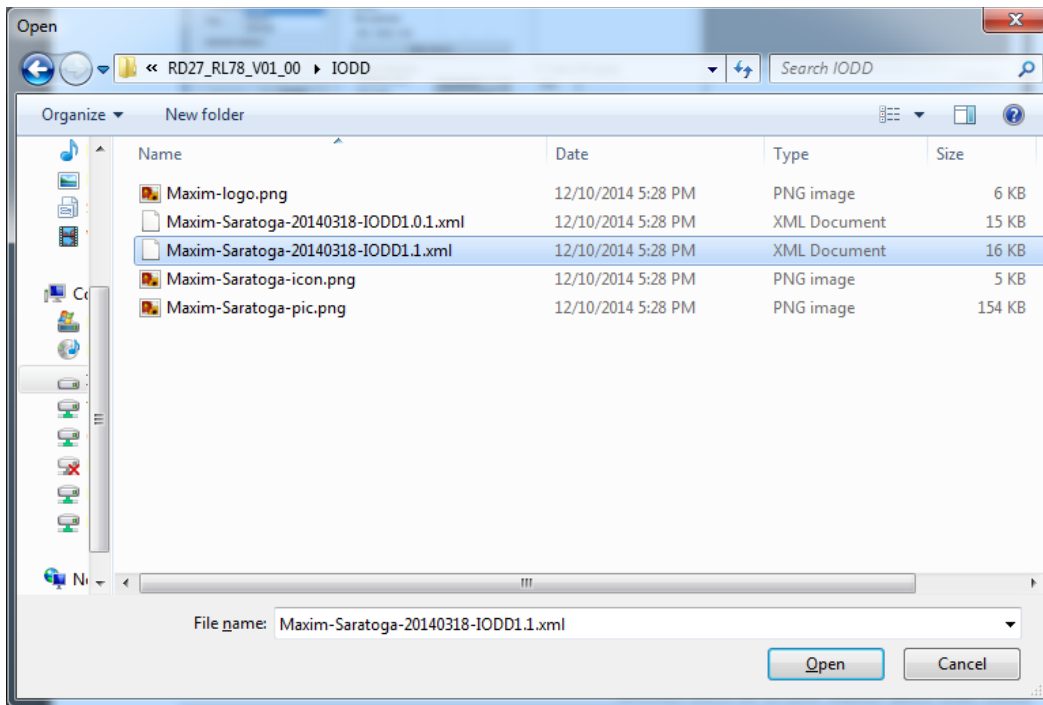
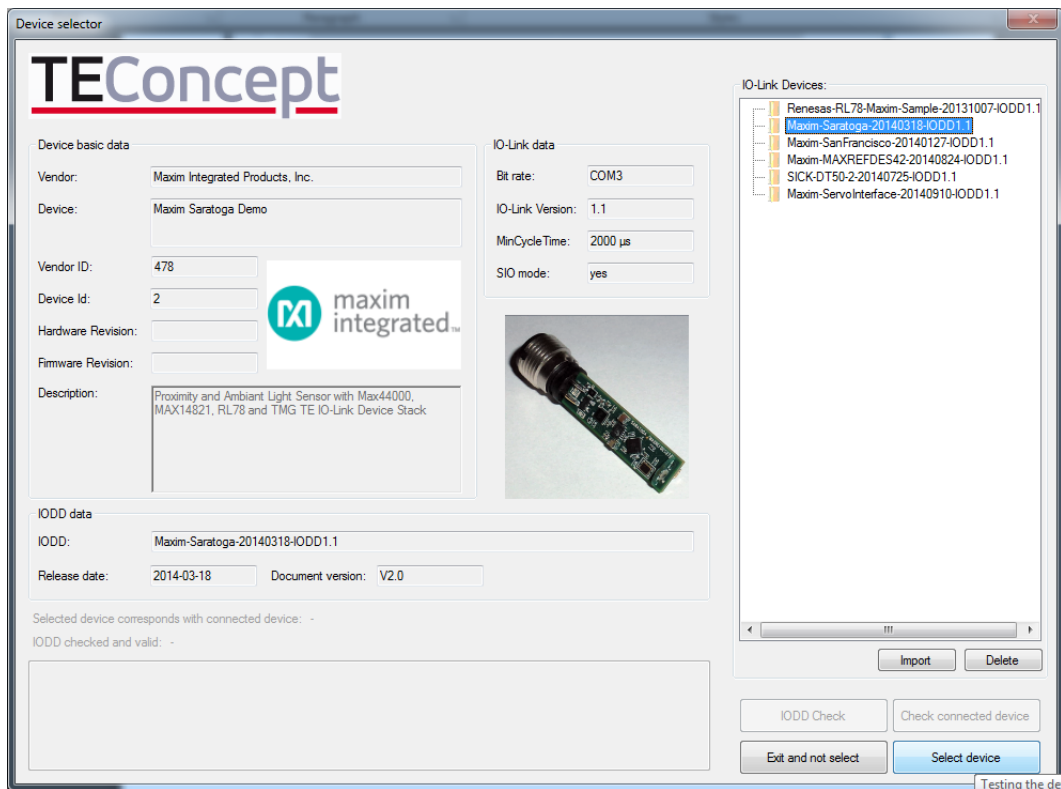

Figure 8. Sensor IODD file (*1.1.xml).
Figure 9. Press the Select device button when imported IODD files are highlighted.
10. Load in the IODD file for your sensor or actuator. In this case, we will show the MAXREFDES27# IO-Link proximity sensor not included. First, press the **Select device** button. In the **Device selector** window, press the **Import** button and select the sensor's ***1.1.xml** IODD file. Highlight the IODD file in the **IO-Link Devices** box and press the **Select device** button. See Figure 8 and Figure 9.